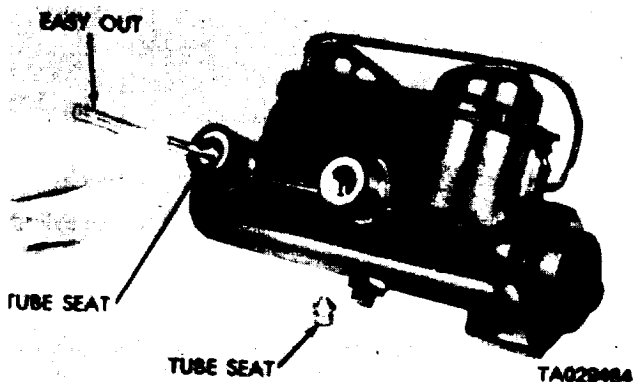

Figure 22-3. Removing Tube Seat.
- (3) Remove the tube seats by placing an "Easy Out" into the seats. Loosen and remove the seats using a hammer (figure 22-3).